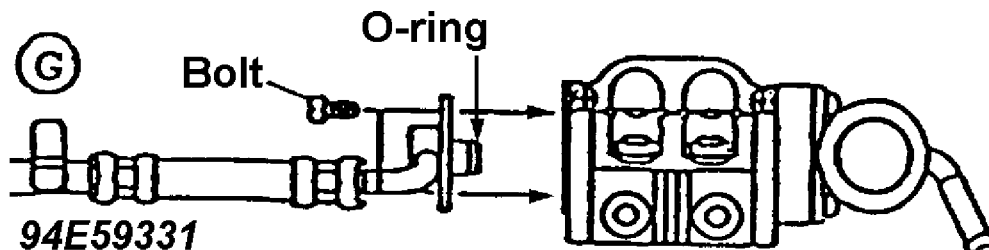

Fig. 18: Installing Primary Fuel Distributor Outlet Modified Hose
26. Install the modified fuel hose on the primary fuel distributor outlet side. See Fig. 18.
- \* Replace the bolts with modified ones. See letter G in Fig. 18.